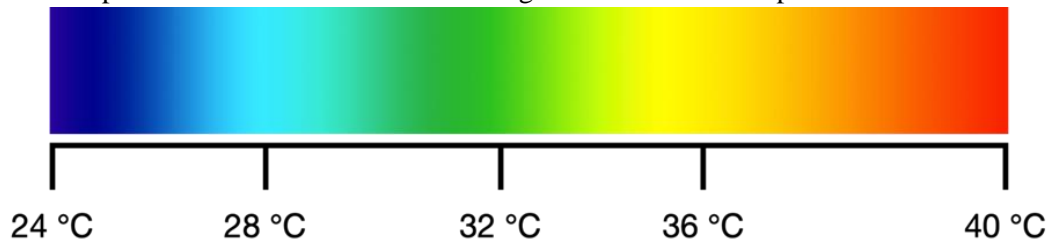

Figure 2. Temperature and color spectrum.
- The RGB Led indicator for both set temperature and ambient temperature should cover the visible spectrum in a continuous manner. Figure 2 illustrates the spectrum.